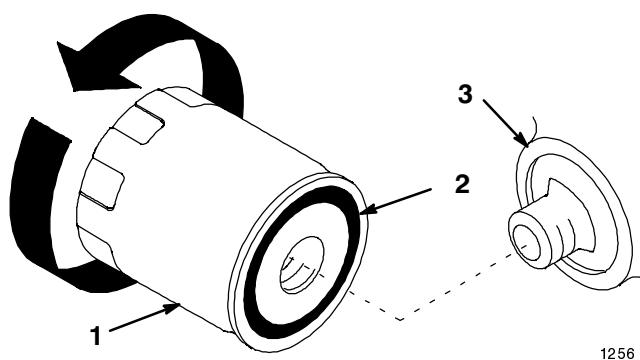

Figure 45
2. Remove the transaxle filter and wipe the filter adapter (Fig. 45) gasket surface.
3. Apply a thin coat of new oil to the rubber gasket on the replacement filter (Fig. 45).
4. Install the replacement transaxle filter to the filter adapter. Turn the filter clockwise until the rubber gasket contacts the filter adapter, then tighten the filter an additional 3/4 turn (Fig. 45).